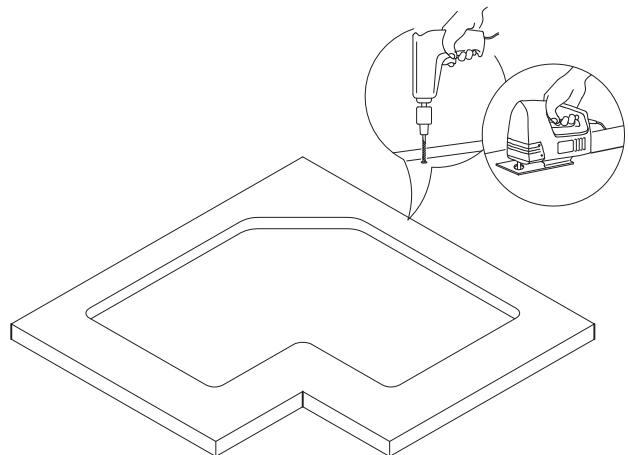

Fig 3.0
4. Drill a 10mm hole just inside the inner (cut out) marked line to allow the jigsaw blade through the worktop. Using a jigsaw with a laminate cutting blade, carefully cut around the innermost marked line. (See Fig 3.0)